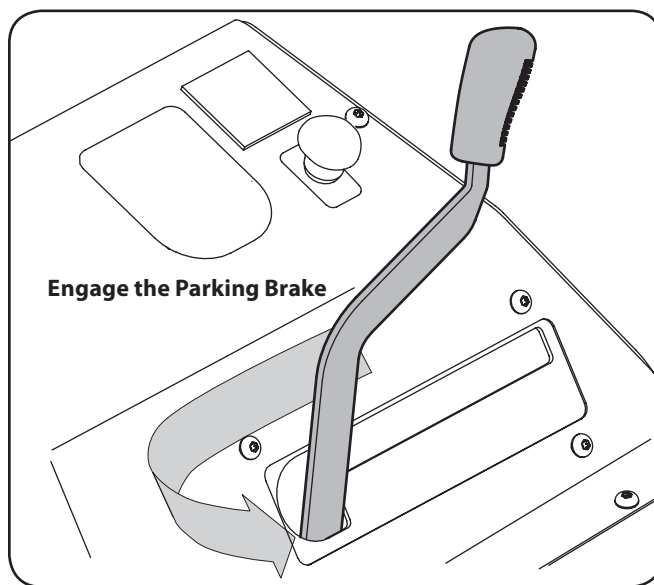

Figure 5-1
3. Engage the parking brake. See Fig. 5-1.